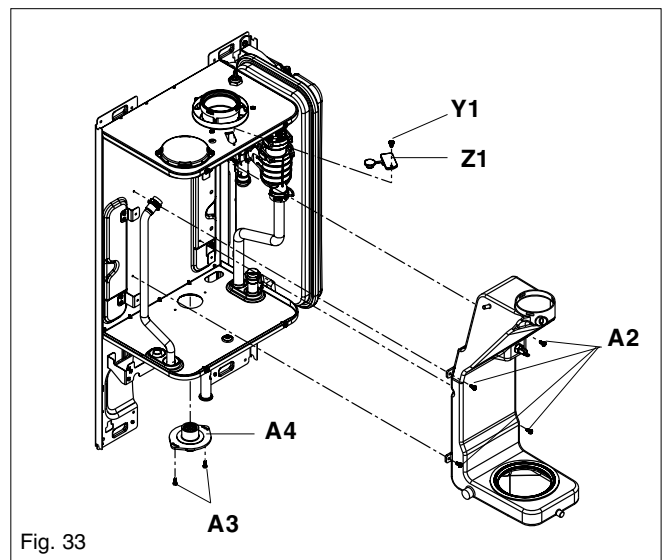

Fig. 33
6.20 FLUE COLLECTOR REMOVAL (fig. 33)
Isolate the appliance from the electrical supply and remove the appliance casing as described in 4.7.1. Set the flue gas analyser to read CO₂ and insert the probe into the flue analysis test point (Y1-Z1 fig. 33). Restore the electrical supply to the boiler and switch the boiler to the OFF mode.
- Insert the flue gas analyser probe into the flue gas test point (see fig. 33).